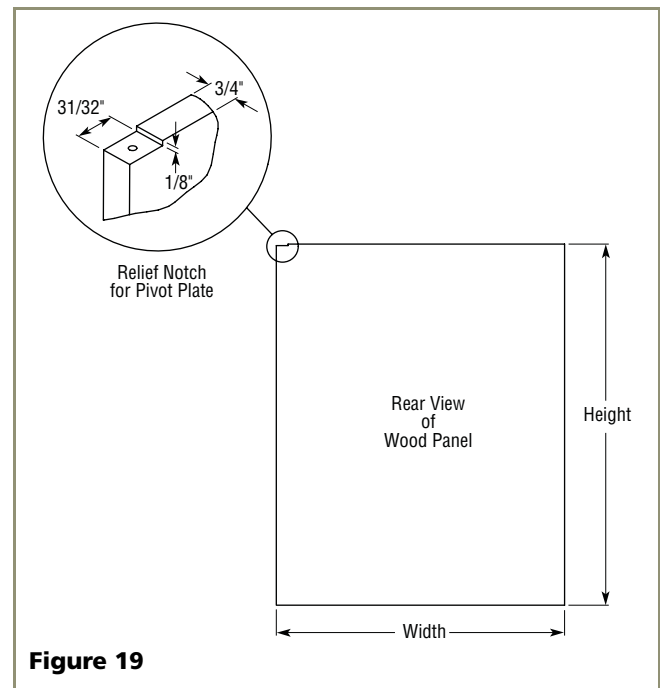
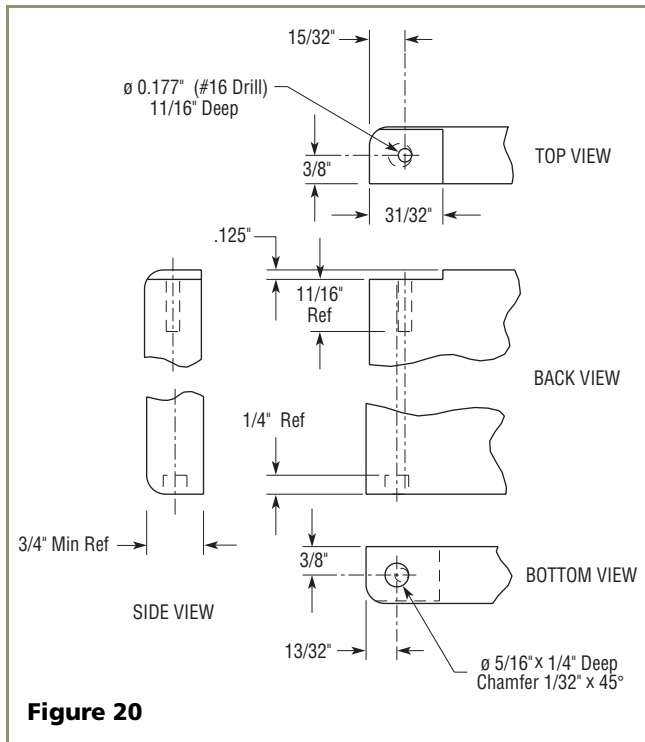

Figure 19
Figure 20
1. Cut the overlay to the following dimensions (see **Figure 19**).
2. Create a relief (**Figure 19**) for pivot plate by cutting notch in top corner of overlay panel. Refer to **Figure 20** for exact specifications.
3. Drill hole for upper door hinge (top of panel) (see **Figure 20**, Top View).
4. Drill hole for lower door hinge (see **Figure 20**, Bottom View).